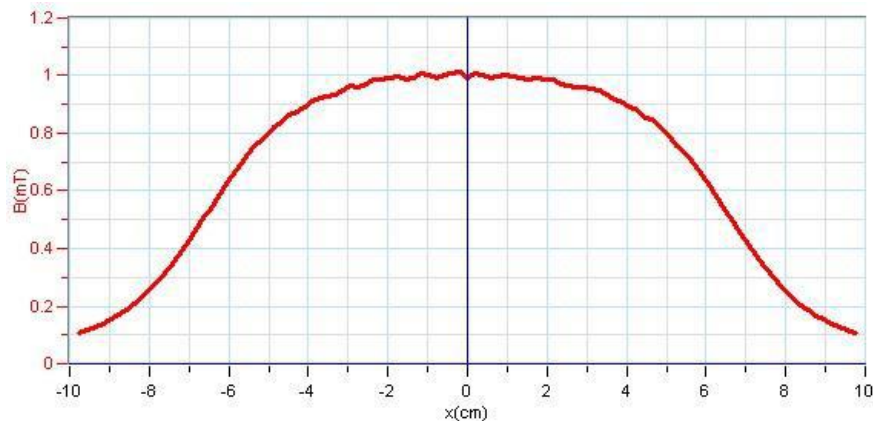

Figure 3
1. Create a graph of magnetic field vs. position by selecting the down arrow (▼) from the **Graph** toolbar and choosing Distance as your x-axis measure (Figure 3).